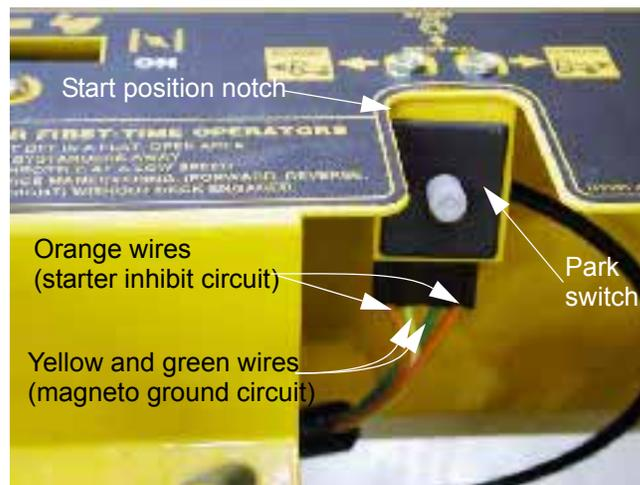

Figure 10.6
10.6. The two park (neutral) switches are located in the control console on each side of the Z-Force. Each is actuated by the movement of a lap bar into or out of the start position notch. See Figure 10.6.